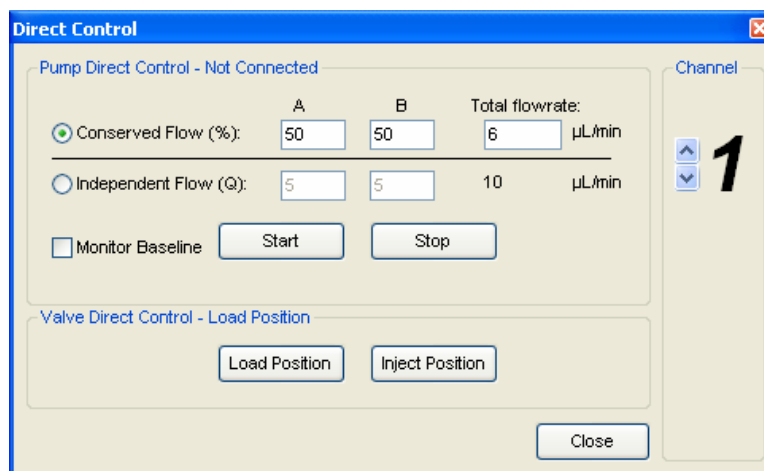

Figure 4-1. Direct Control Window
- step 5* Set solvent **A** to 50, solvent **B** to 50 and **Total flow rate** to 6 $\mu\text{L}/\text{min}$ (Figure 4-1).
step 8 Open the **Direct Control** window by clicking **System > Direct Control** from the Control software's **Acquisition Window** (Figure 4-1).